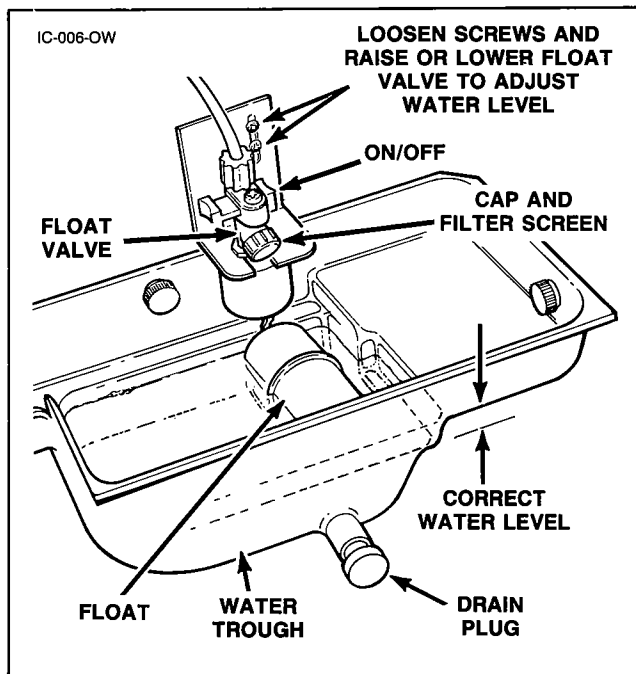

FIGURE 6 WATER LEVEL CHECK
Water Level Check (Figure 6)
2. Allow trough to fill to proper operating level, Figure 6.